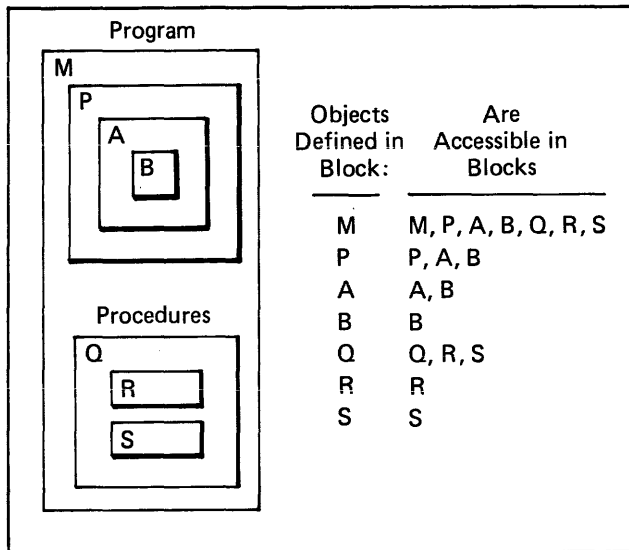

Figure 9. Pascal Block Structure
- Block-structured format that directly supports structured programming concepts (figure 9)